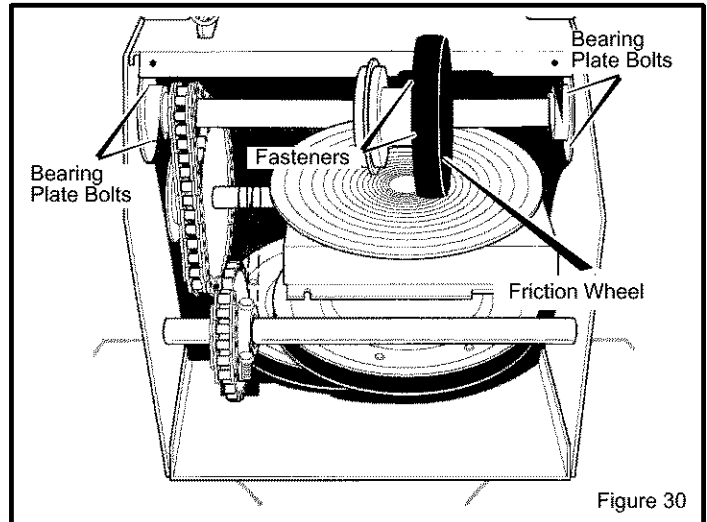

Figure 30
5. Remove fasteners securing friction wheel to hub, and set fasteners aside (see Figure 30).